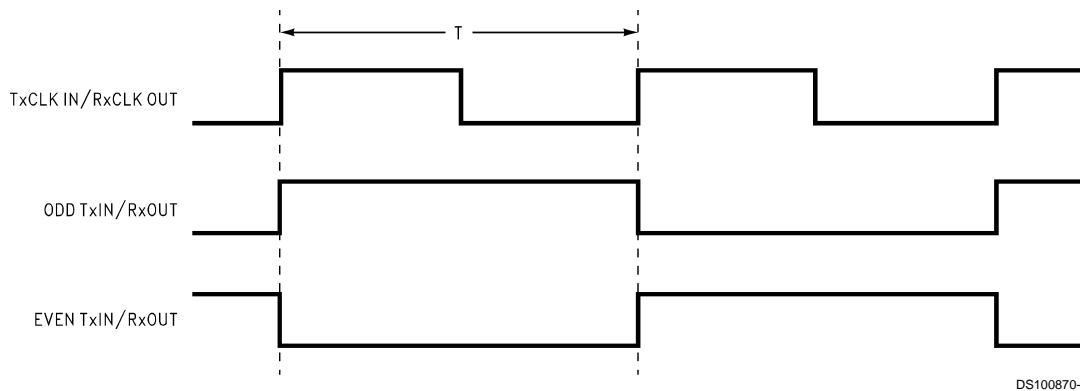

FIGURE 1. "Worst Case" Test Pattern
**Note 7:** Figures 1, 3 show a falling edge data strobe (TxCLK IN/RxCLK OUT).